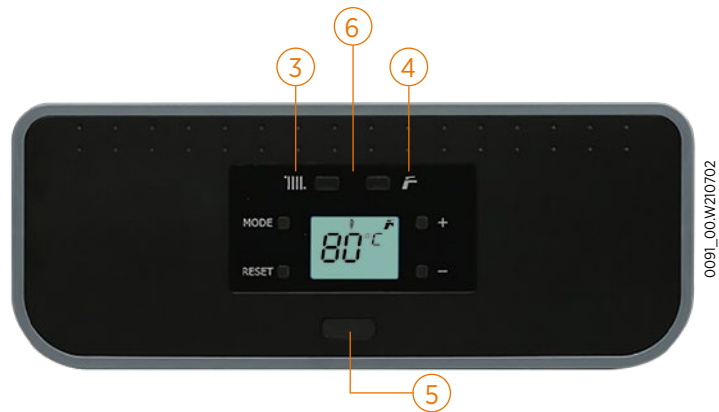

Figure 1 Control panel of Ewa Combi Boiler
In winter mode, boiler operates both for heating the environment and providing Domestic Hot Water. Radiator (CH) temperature adjustment is made with (3) and (4) numbered buttons in Figure 1 Domestic Hot Water temperature adjustment is made with (6) and (7) numbered buttons and this temperature is indicated with (9) numbered indicator for Radiator (CH) and with (11) numbered indicator for Domestic Hot Water.